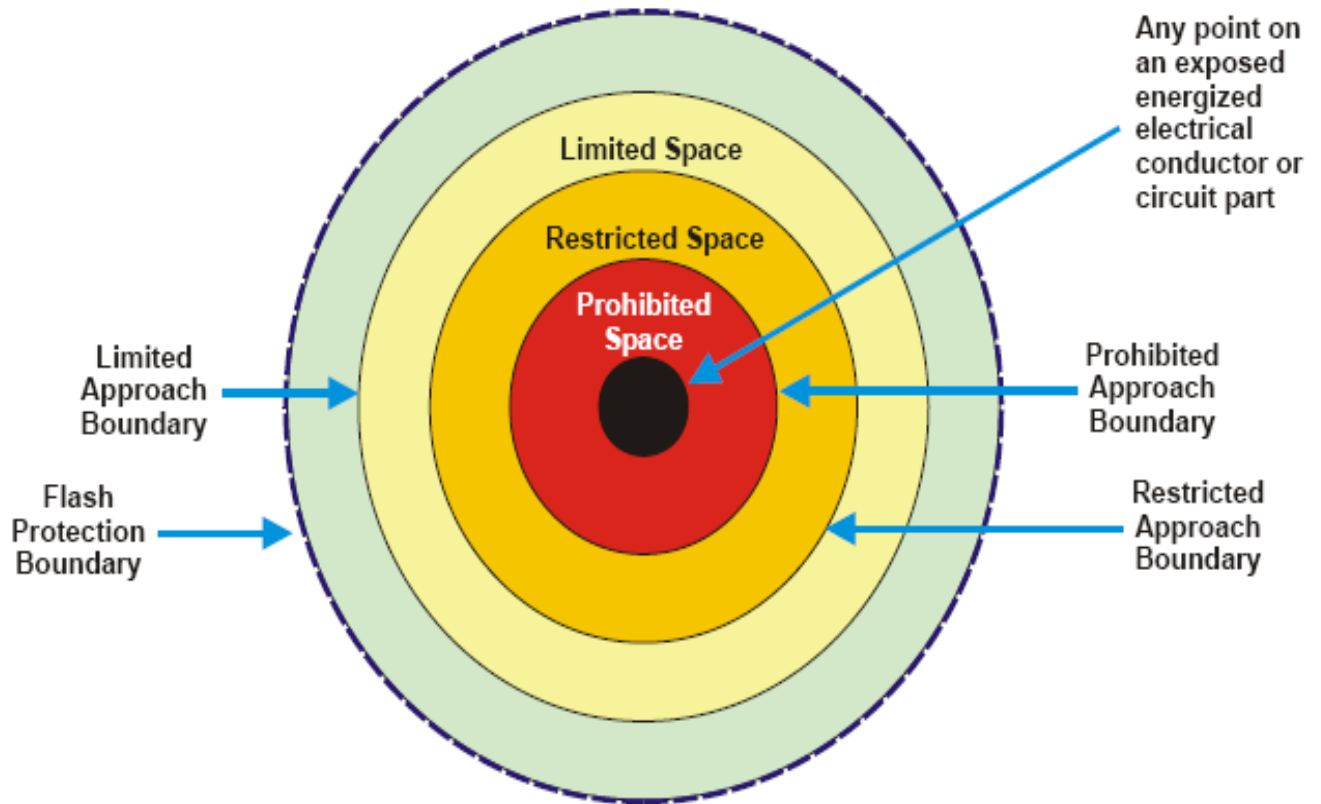

Figure 1. Approach Limits.
- a. Refer to enclosures (1) through (12) of this SOP for specific task-specific PPE requirements.
- b. Limits of Approach. The approach boundaries are specified distances from an exposed energized conductor that identify established requirements for additional safety measures. See Figure 1 to view a graphical approach boundary representation. The voltages to be used in determining the approach boundaries are the nominal phase-to-phase voltages. See Table 1 for approach distances for various system voltages. When working on systems of a lower voltage requires working near a higher voltage, the approach boundaries of the higher voltage are also applicable. If the lower voltage work requires working